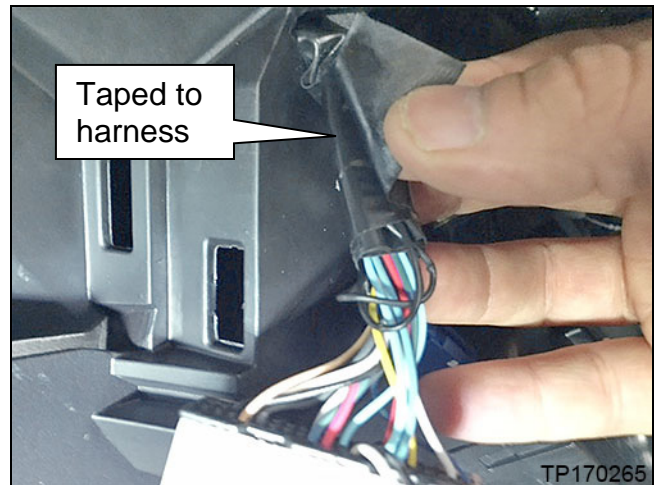

Figure 26
22. Tape the wires from step 21 to the harness. Figure 26.